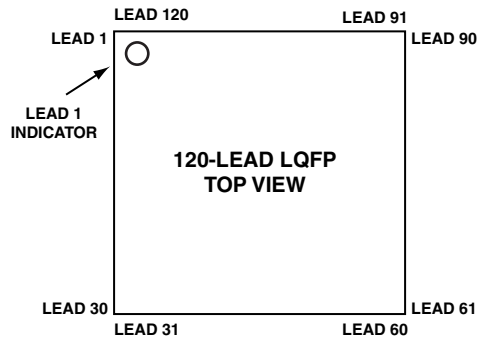
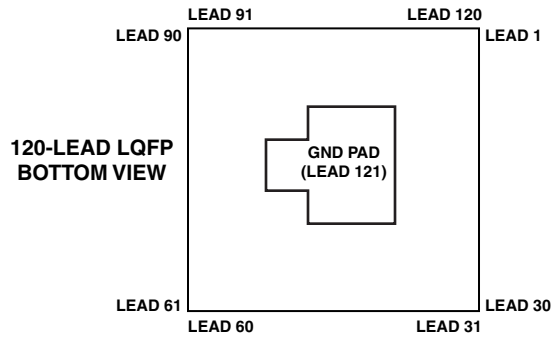

Figure 64. 120-Lead LQFP Lead Configuration (Top View)
Figure 65. 120-Lead LQFP Lead Configuration (Bottom View)
* Pin no. 121 is the GND supply (see Figure 65) for the processor; this pad **must** connect to GND.
Figure 64 shows the top view of the 120-lead LQFP package lead configuration and Figure 65 shows the bottom view of the 120-lead LQFP package lead configuration.